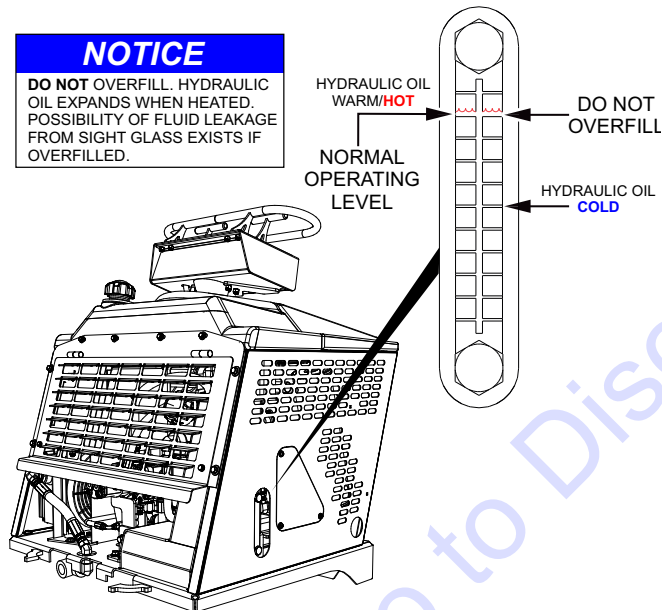

Figure 34. Hydraulic Oil Sight Glass
1. Check the hydraulic oil level in the hydraulic oil tank by reading the hydraulic oil sight glass (Figure 34) mounted on the hydraulic oil tank.